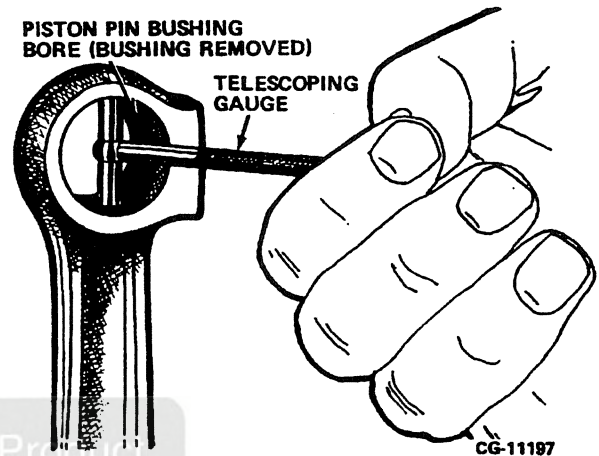

**Figure 5.24. Checking Connecting Rod Piston Pin Bushing I.D.**
1. Measure inside diameter of piston pin bushing in connecting rod using a telescoping gauge and a micrometer, Figure 5.24. (See **SPECIFICATIONS**). If bushings are worn, new bushing must be installed after connecting rod passes inspection.